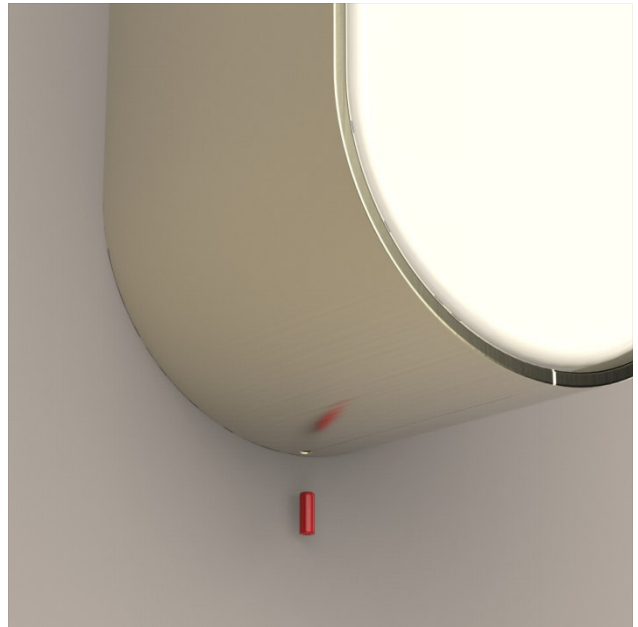

Figure 9
- Secure fixture by tightening set screw (shown red) at bottom of fixture. (Figure 9)